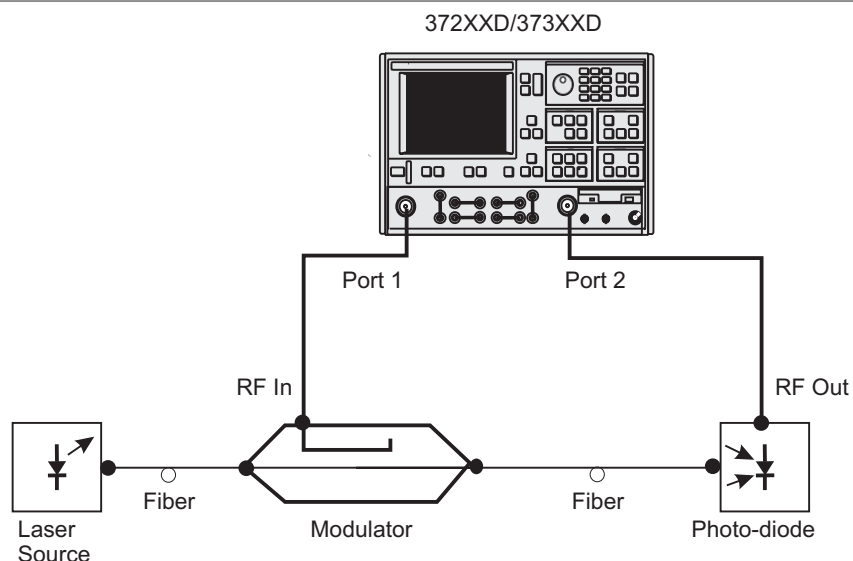

Figure 8-33. E/O Measurement Setup
Optical modulators modulate digital data signals over a light wave carrier and send it over fiber optic networks. Since a VNA is only capable of generating and measuring electrical signals, a laser source is required to provide optical input to the modulator DUT and a photo-diode/photo-receiver is required to convert the modulator output back to an electrical signal that can be measured by the VNA. The MN4765A (65 GHz characterized photo-diode) is used with the following procedure. The equipment set up for an E/O measurement is shown in Figure 8-33, below.
Step 1. Set-up the measurement as shown in Figure 8-33.